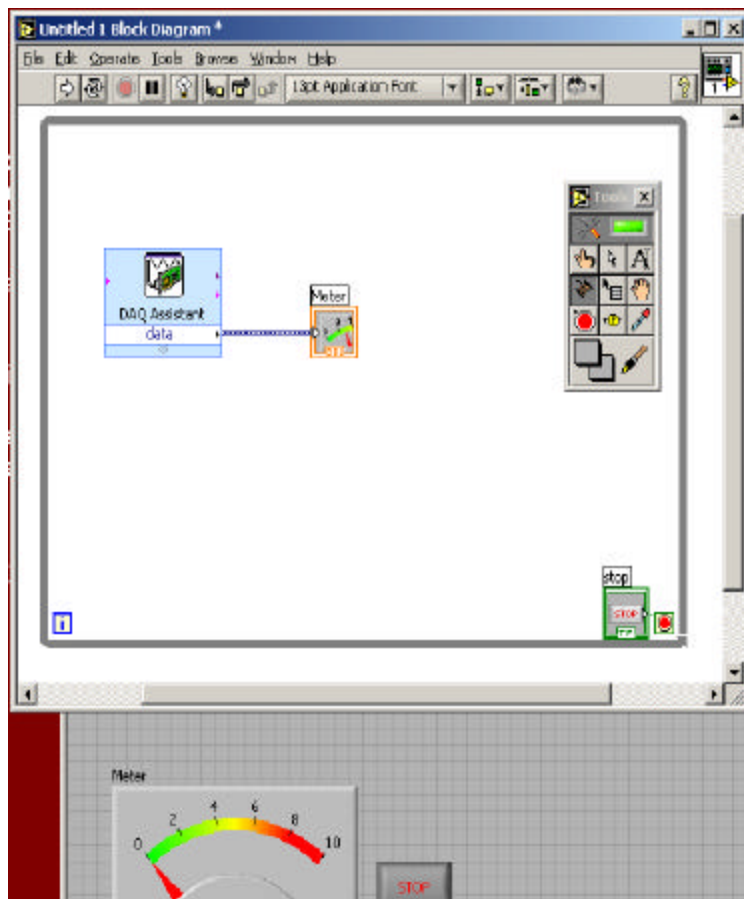

Figure 1.13
A. Your VI should look something like Figure 1.13.